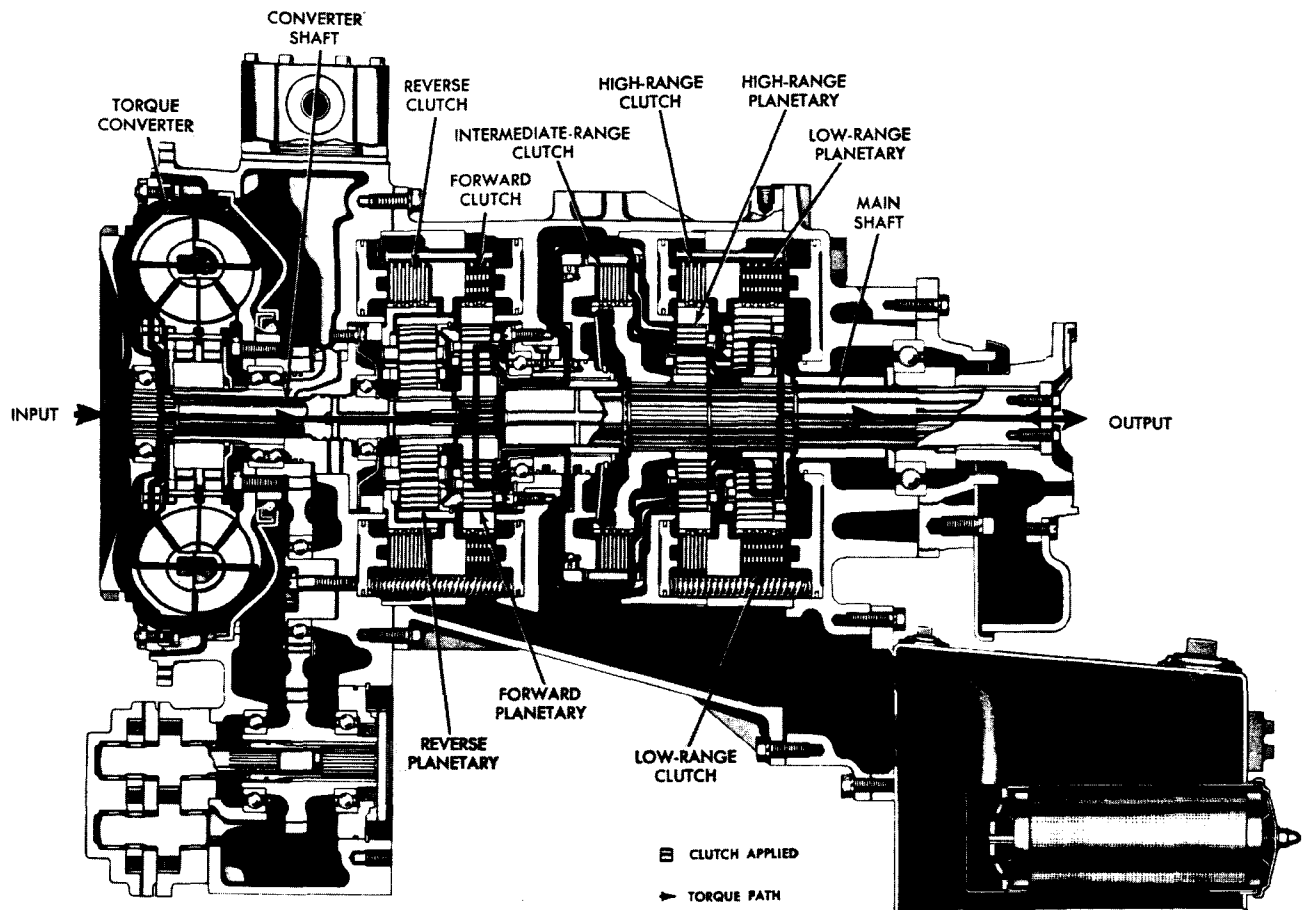

Fig. II-2. Forward, low-range—torque path (CRT 3331-3)
24. FORWARD, LOW RANGE – TORQUE PATH (fig. II-2)